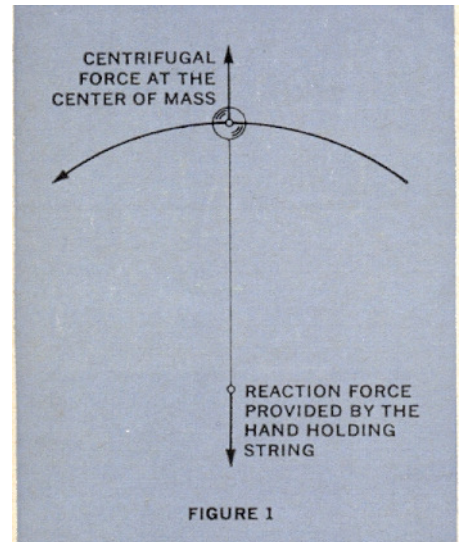

FIGURE 1
It's important to understand the balance of forces acting on a car in a turn. Figure 1 is a "force diagram", or "free-body diagram", which shows the forces acting on a ball that's being propelled in a
Everything we know about automobile dynamics is based on the application of the simple rules outlined above and pictured in Figures 1, 2, and 3. If that was all there was to it, automobile design would be as exact a science as simple mathematics, but there are some complicating factors-most important of these are the basic and unique qualities of tires that we mentioned before. In order to understand the behavior of an automobile, you must have some knowledge of (1) the frictional characteristics of tires, and (2) the elastic characteristics of tires.